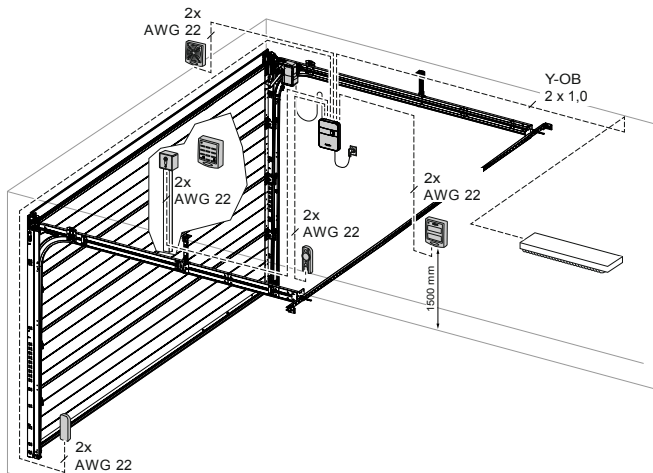

Fig. 5: Example installation of accessories
Place the door bracket (5) on the designated holes in the upper door leaf section and screw it down using the three screws (15) (fig. 5).